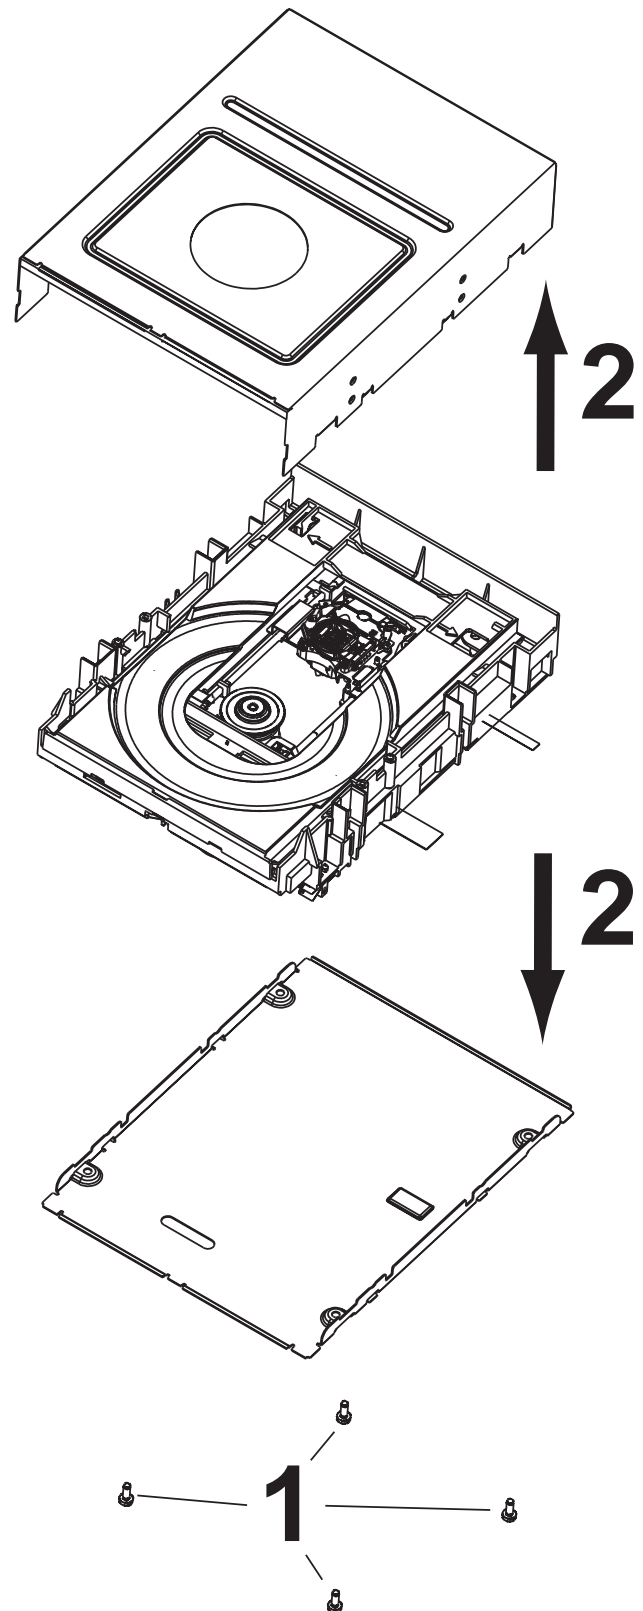

Figure 4-1 Basic Engine dismantling (part1)
- Remove the encasing by releasing the four screws at the underside of the drive, see figure 4-1